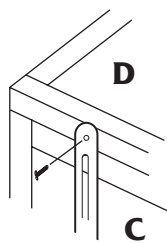

Fig. 4
- a. Screw the support arms (E) into the lid sides using small screws (I). Position the screw directly above the bolt hole in sides (C). (**See Figs 4 and 5**).